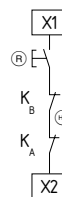

Fig. 5
**External reset button (with edge detection) (see Fig. 5)**